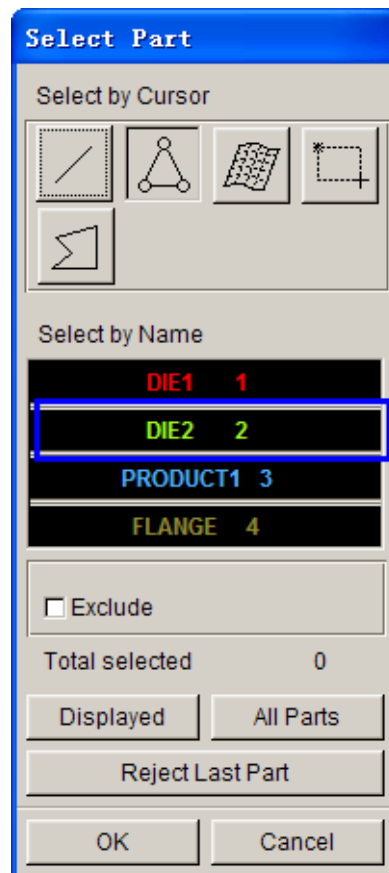

Figure 1.32: Select part dialog box
- 11) Select DIE2 part in the popped out Select Part dialogue box as the corresponding part of surface target. See figure 1.32.